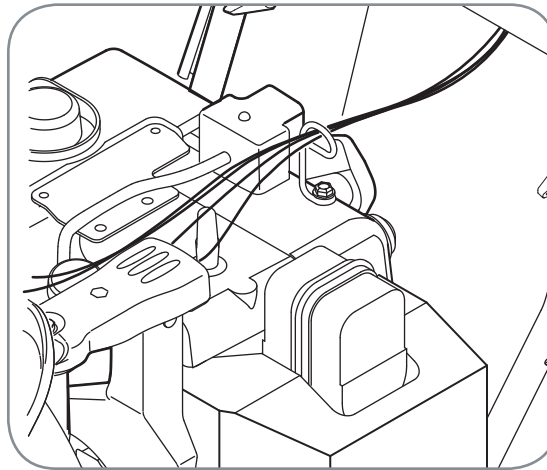

Figure 3-5
5. Check that all cables are properly routed through the cable guide on top of the engine. See Figure 3-5.